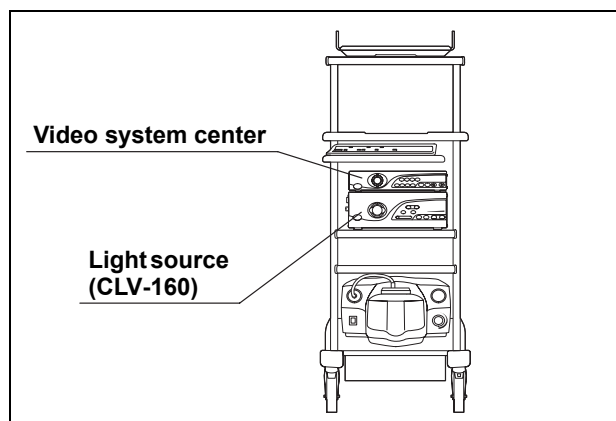

Figure 3.3
6. Place the light source on the mobile workstation so that the feet rest in the foot holders (see Figure 3.3).